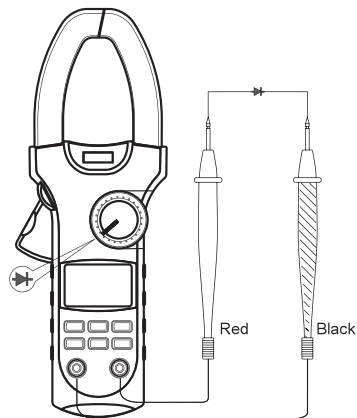

Figure 5
**72-9485: OPERATING MANUAL****C. Testing Diodes (see Figure 5)****⚠ Warning**